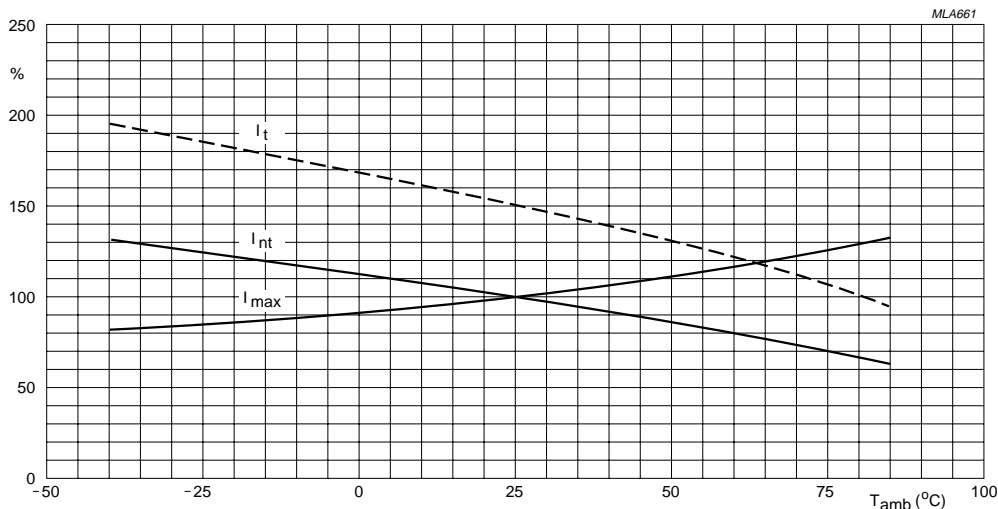

Fig.2 Current deviation as a function of the ambient temperature.
4. I_{max} is the maximum overload current that may flow through the PTC when it passes from the low ohmic to the high ohmic state; see Figs 2 and 3.
At $0\text{ }^\circ\text{C}$ this gives 1.68 A_{RMS} maximum overload current; see Fig.2.
To check the trip-time for a specific PTC, refer to Table 3, 4 or 5 for the value I_{nt} . Divide the overload or trip current by this I_{nt} and you realize the factor I_t/I_{nt} . This rule is valid for any ambient temperature between 0 and 70 °C. Adapt the correct non-trip current with the appropriate curve in Fig.2. The relationship between the I_t/I_{nt} factor and the switching time is a function of the PTC diameter; see Figs 4 and 5.